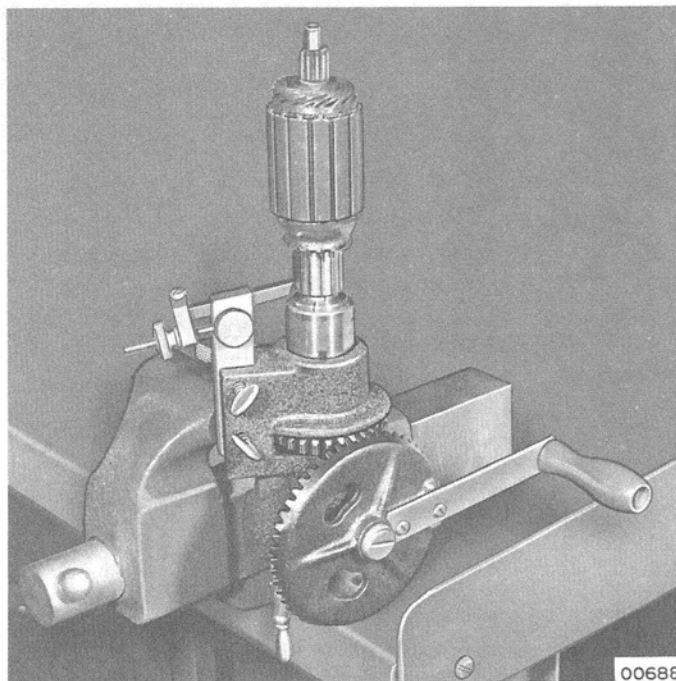

Figure 10. Resurfacing Commutator
- a. Resurface commutator with a reconditioning tool (Figure 10) or turn down on lathe until clean.